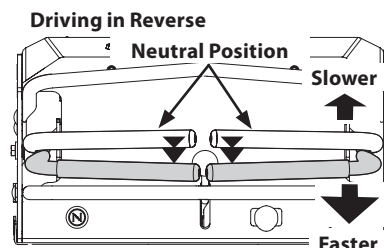

Fig. 12
1. Slowly and evenly move both drive control levers rearward. The mower will start to move in the reverse direction (Fig. 12).